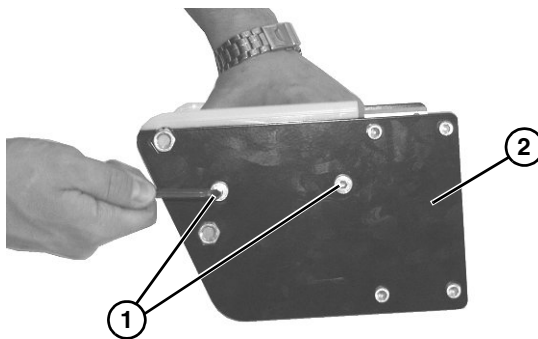

Figure 48
4. Remove two low head cap screws (**Figure 48, item 1**) from plate (**Figure 48, item 2**). Repeat procedure on opposite side.